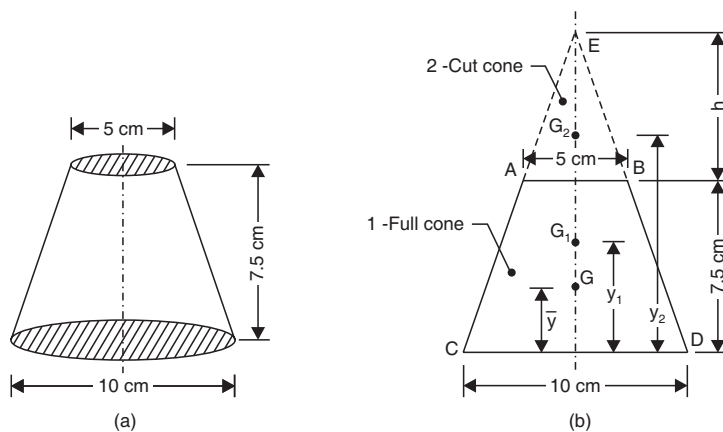

Fig. 4.37
**Sol.** Refer to Fig. 4.37 (a and b)